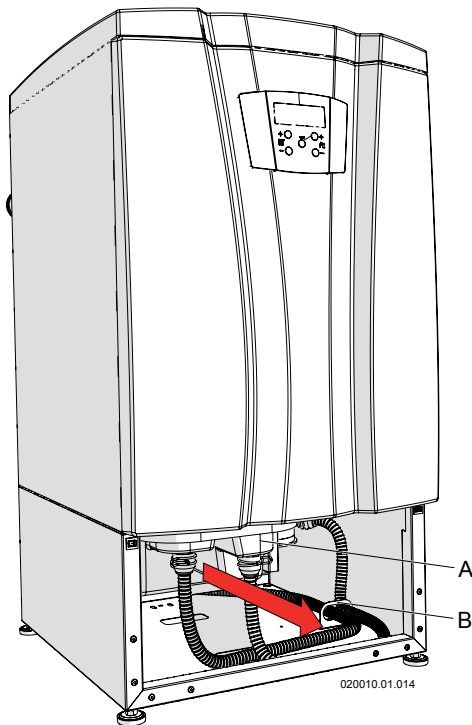

Figure 17-10 Condensate trap and neutralizing box removing
2. pull out the condensate box "A" (Figure 17-10);